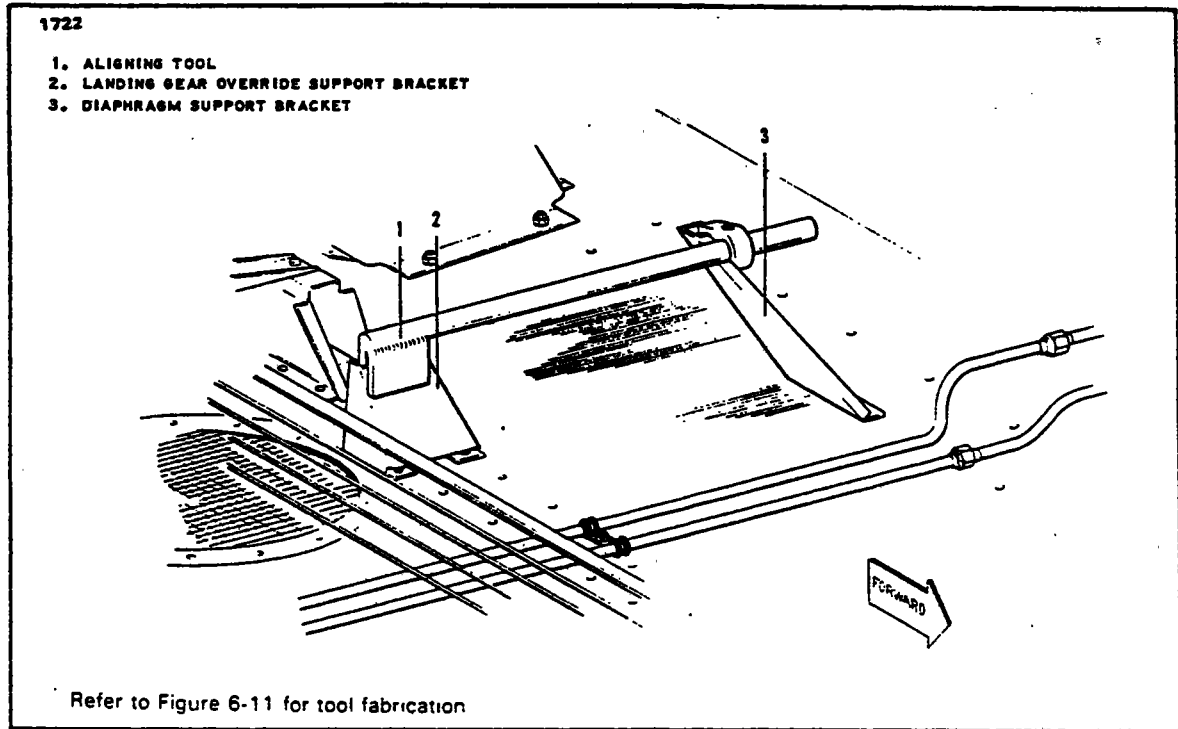

Figure 6-6. Checking Aligning Brackets of Gear Back-Up Extender Actuator
**6-13. REMOVAL OF GEAR BACK-UP EXTENDER ACTUATOR ASSEMBLY.** (Refer to Figure 6-6.) The back-up extender actuator is located under the rear seat. To reach the actuator, remove the rear seats.
b. On early installations disconnect the manual override control rod (30) at the actuator control arm (19) by removing cotter pin, washer, and clevis pin (1). On later installations the control rod (30) is not connected to the actuator arm (19).
c. Disconnect the pressure (13) and static (11) hoses from the elbows (12) of the diaphragm housing (10) by releasing clamps and sliding the hoses from their elbows. The hoses should be tagged for ease of reassembly.
d. Place a shop cloth under the actuator hydraulic valve (25) to absorb fluid, and then disconnect the hydraulic lines (5) and (25) from the elbows (4) and (27) of the hydraulic valve (25). Cover the lines to prevent contamination.
To reform the main fuselage mounting bracket, an Aligning Tool may be used. (Refer to Figure 6-6.) This tool may be fabricated from dimensions given in Figure 6-11. When proper alignment has been accomplished, tighten the machine screws.